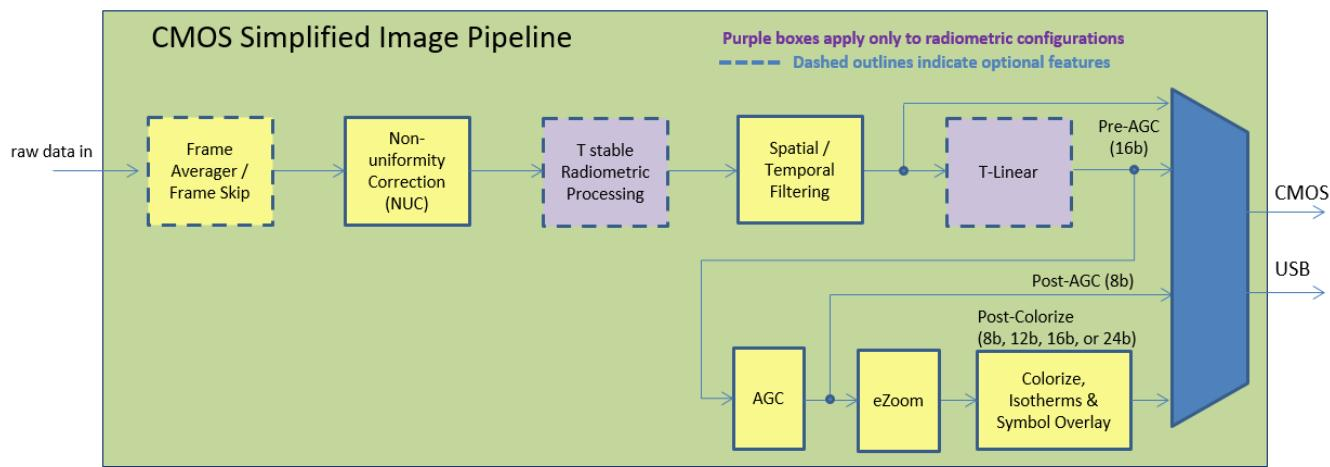

FIGURE 53: BOSON+ SIGNAL PIPELINE – USB OUTPUT ENABLED
As described in Section 5 and shown in Figure 53, there are multiple locations in the signal pipeline where video can be tapped for output on the CMOS channel. Boson+ provides the following CMOS video-tap modes:
- **Radiometry Enabled Pre-AGC (16-bit) (factory default with Radiometry enabled)**: On Radiometry enabled cameras, the T-stable or T-linear tap point is available. See Figure 53, as well as Section 7.7.